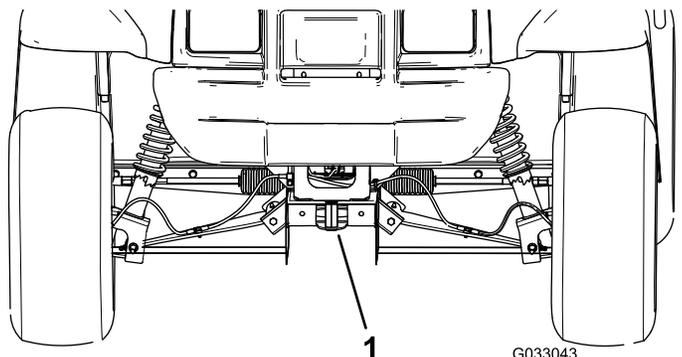

Figure 24
- The lifting point at the front of the machine is at the front of the frame behind the towing tongue (Figure 24).